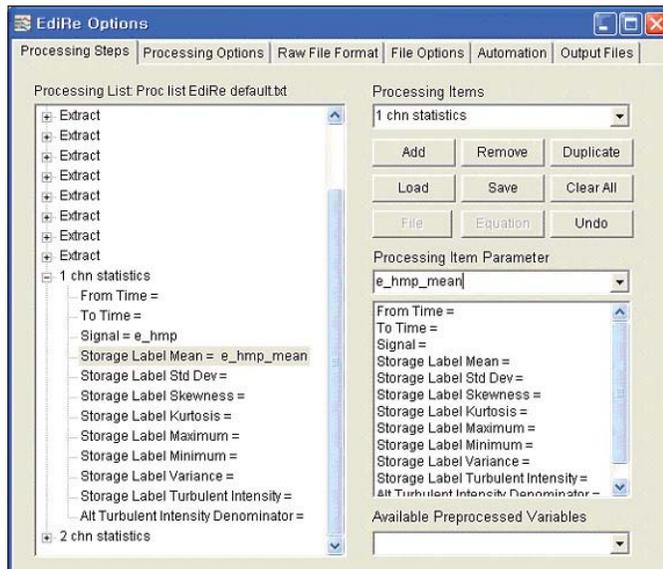

Figure 10: Add 1 chn statistics and fill in Storage Label Mean = `e_hmp_mean` to compute mean vapor pressure.
22. In order to compute the sensible heat flux coefficient, we first compute mean values for vapor pressure, air temperature, and air pressure. The raw values are stored in the `ts_data.dat` time series data file by the dataloggers. Figures 10 through 12 show how it is done.